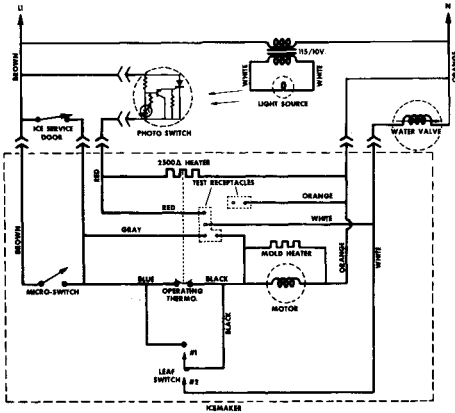

Figure 36 - Schematic with Receptacles on Cover Top
- a. Remove the shelf above the icemaker, and place the test light between the red lead terminal in the "L" shaped test receptacle and the orange lead in the remaining (two opening) test receptacle (see figure 36).